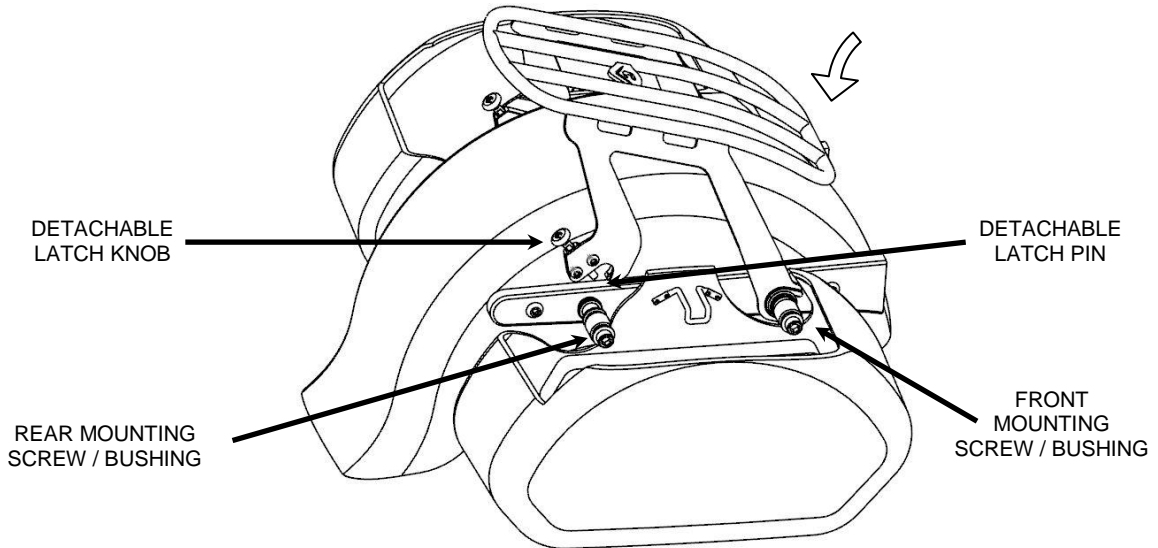

FIGURE 3
4. Install the detachable rack onto the motorcycle by first inserting the front portions of the side plates on to the front mounting bushings on the frame rails. Make sure the rack is seated all the way onto the mounting bushings. See **FIGURE 3**.